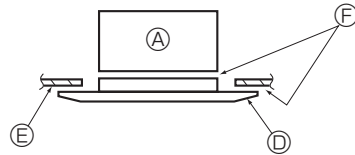

Fig. 6-8
- * Make sure that there are no gaps between the main unit and the grille or the grille and the ceiling. (Fig. 6-8)